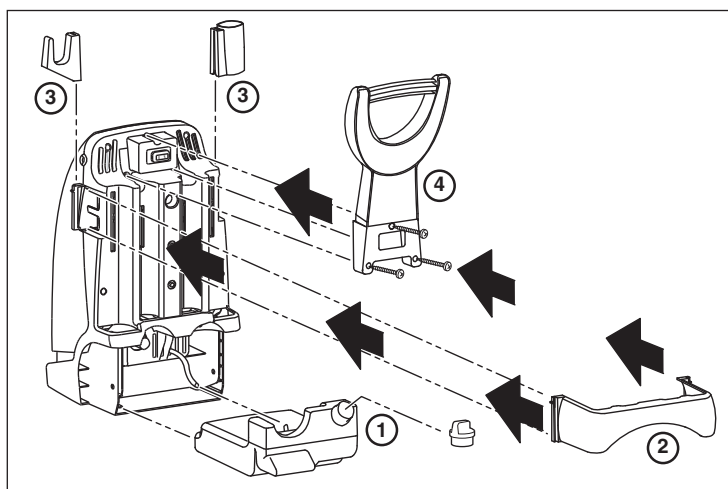

Figure 1
1. Attach detergent suction tube to hose barb on detergent tank and put cap on detergent tank (Figure 1).
2. Slide accessory storage bracket onto back of pressure washer (Figure 1).
3. Slide cord holder and lance storage collar onto side of pressure washer (Figure 1).
4. Align handle on back of pressure washer and attach using screws provided (Figure 1).